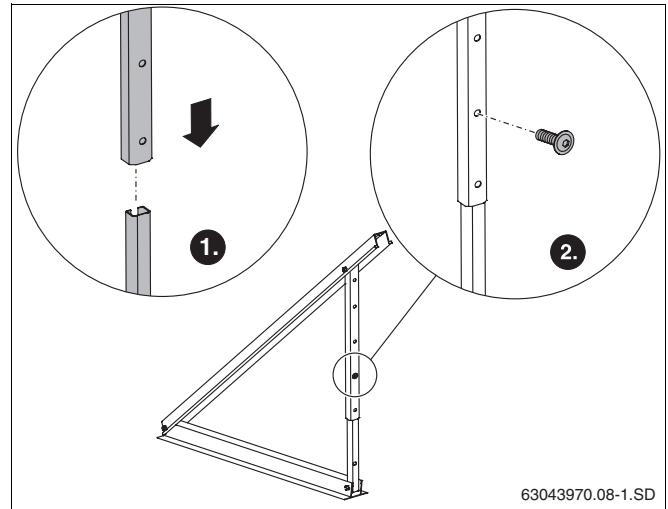

Fig. 11 Connecting telescopic rails
- ▶ Insert telescopic rails into each other and fasten with M8 × 20 screw (Fig. 11).